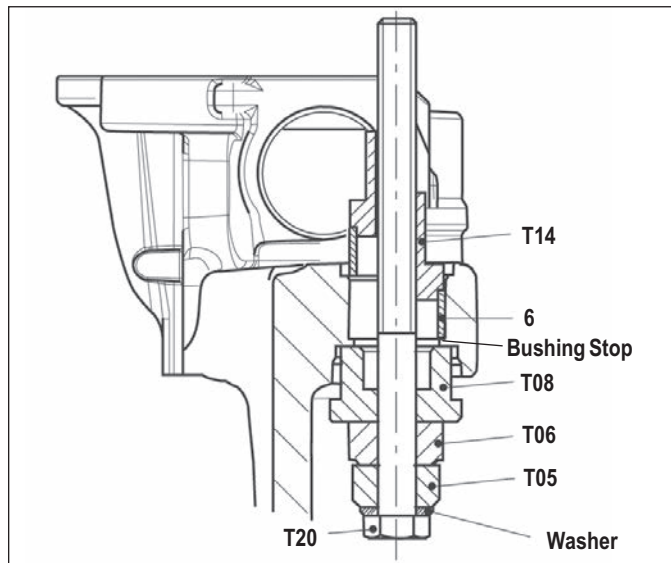

Figure 80 – Guide Pin Bushing Installation
5.6.27 Use the tool combination shown in Figure 79 to draw the bushing (6) into the caliper. See also Figure 80, to see the orientation (with tool T14 at the top). Hand tighten the nut (T14) into position. Then tighten the bolt (T20) using a box end wrench or socket to draw the bushing (6) into the caliper until the bushing (6) contacts the machined step in the bore. Remove the tool.